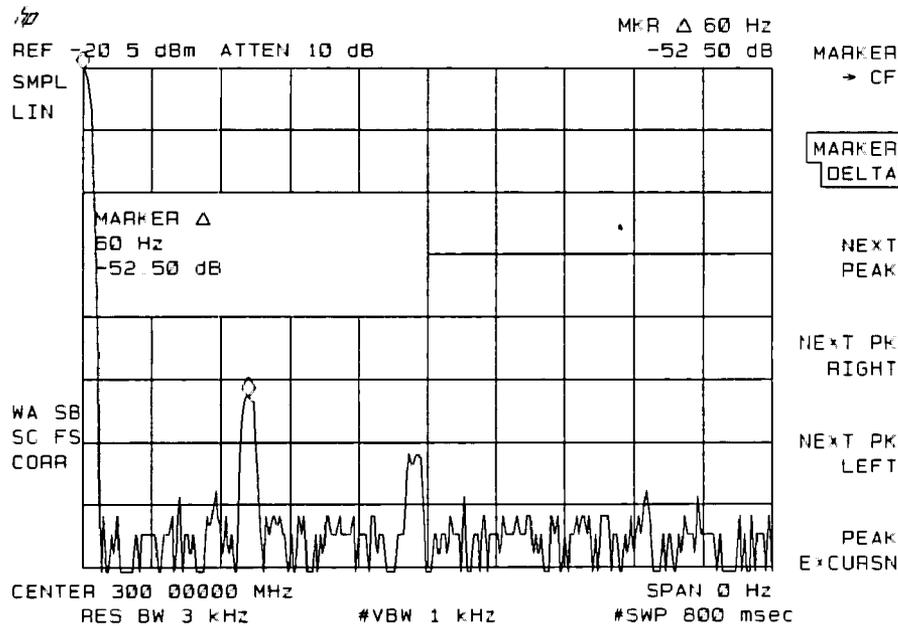

Figure 6-31. Using the FFT Function
10. A marker is automatically placed on the carrier at the 0 Hz reference (at the left edge of the graticule). Press **MARKER DELTA** and turn the knob to the modulation to determine the frequency and amplitude difference from the carrier. See Figure 6-31.
The results of the FFT function are displayed on the analyzer screen. The carrier appears at the left edge of the graticule with the modulation sidebands, and any distortion appearing along the horizontal graticule. The left edge of the graticule represents 0 Hz relative to the carrier. The right edge represents the maximum FFT frequency calculated, which is 200 divided by the sweep time, or 250 Hz in Figure 6-31. The amplitude relationships among the carrier, sidebands, and distortion components are the same as they would be if the components were displayed with swept-tuned operation in log mode, 10 dB per division.